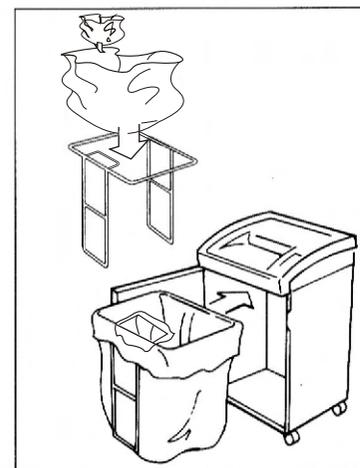

FIGURE 2.
**FIGURE 2.** Remove the wire bag rim from the cabinet. Place one large shredder bag and one small CD bag onto the rim as shown. Slide the rim with bags back into the cabinet. Close the door. Your shredder ready for use!